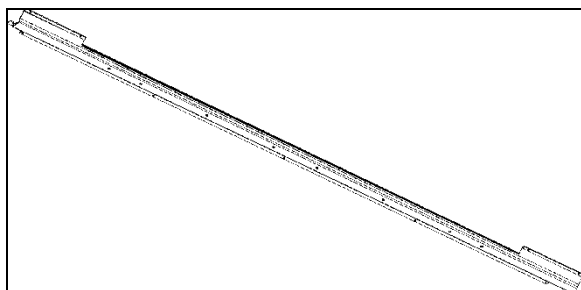

FIGURE 99: LED INDIRECT LIGHTING IN OVERHEAD COMPARTMENT
2. Using a Phillips head screwdriver, unscrew and remove the existing LED strip (FIGURE 99).